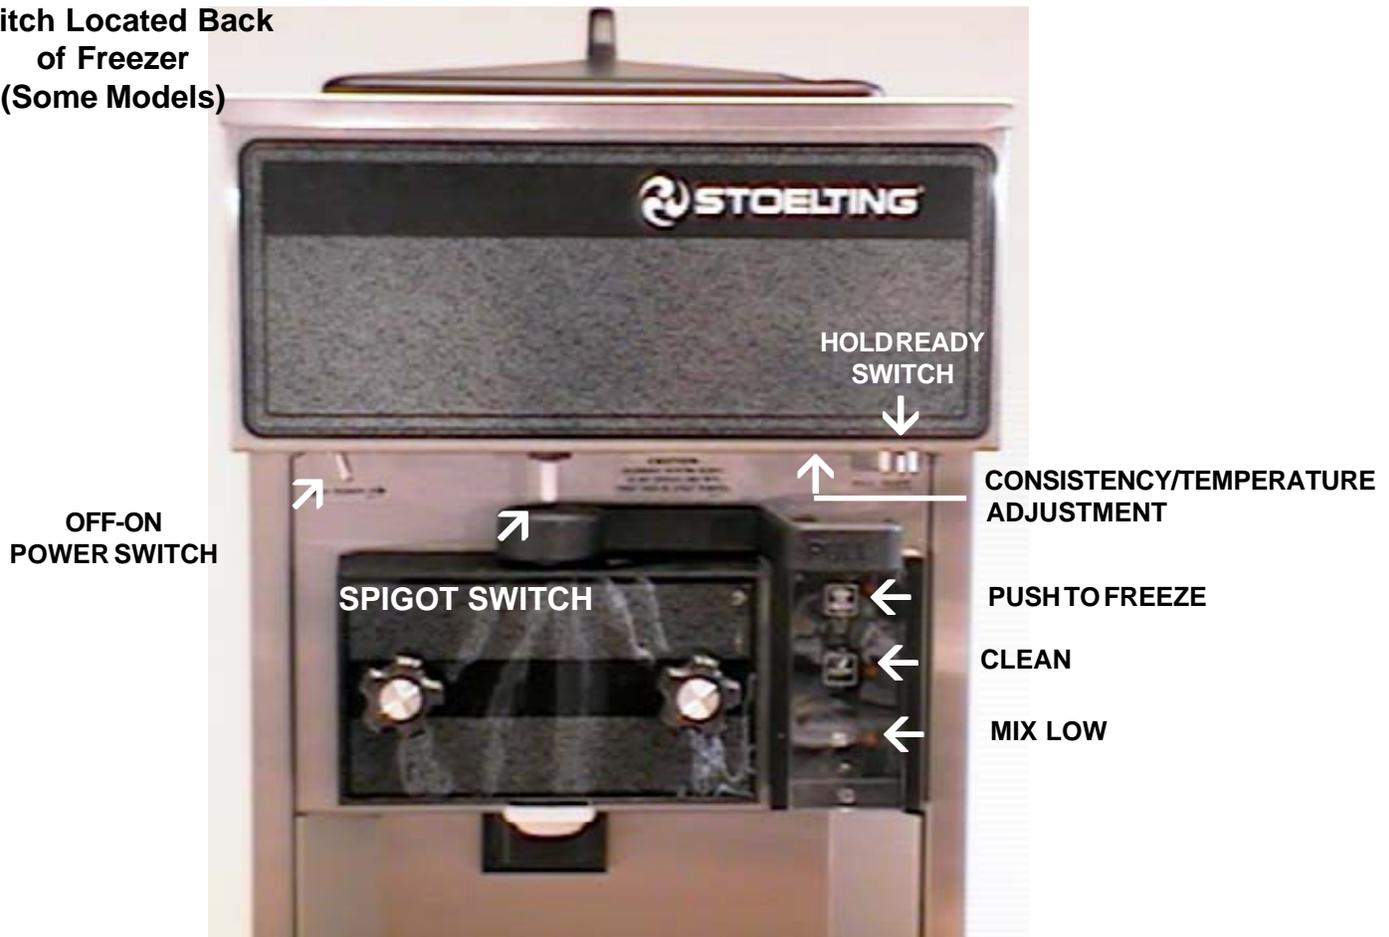

Figure 10. Controls
- D. Place the OFF-ON switch in the OFF position. (Fig.10).
Before operating the freezer, it is required that the operator know the function of each operating control. Refer to Figure 10 for the location of the operating controls on the freezer. For the information regarding flashing indicator lights, refer to the troubleshooting section.